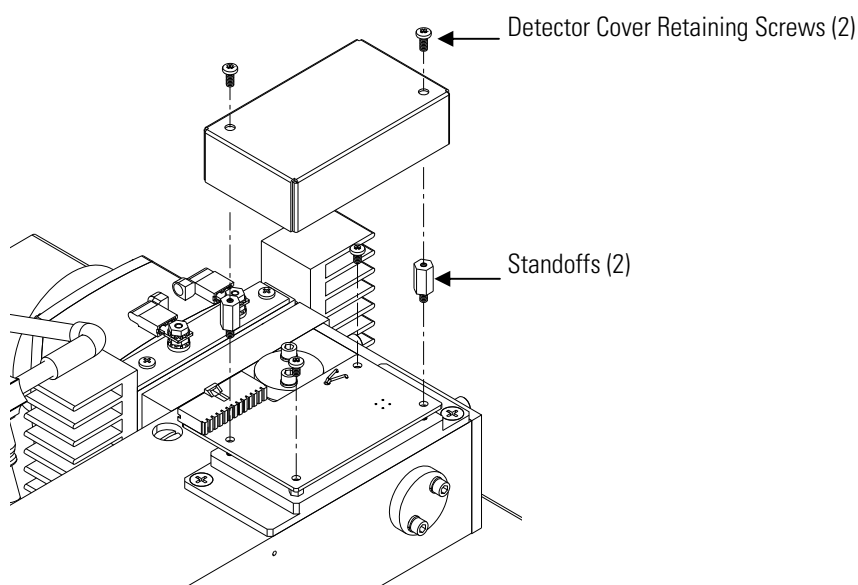

Figure 7-6. Removing the Detector Cover
3. Remove the two detector assembly cover retaining screws and remove the cover (Figure 7-6).
4. Remove the two standoffs and the two panhead Philips screws (Figure 7-6).